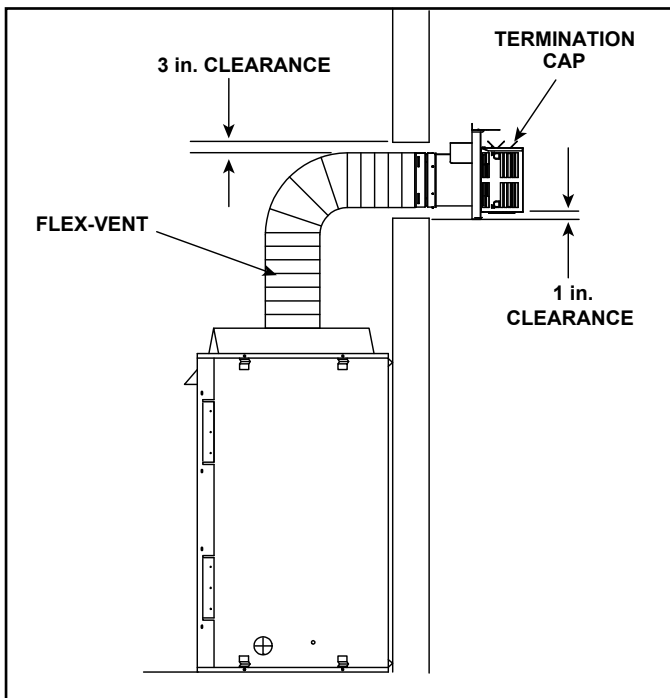

Figure 4.8 Flex Vent Pipe - Generic Fireplace Shown
A support is required at each change in venting direction, and in any location where it is necessary to maintain the necessary clearance to combustibles. A simple “up and out” installation (Figure 4.8) requires only enough support to maintain the necessary clearance to combustibles. However, the vent attachment point and the firestop location are considered to be supports.
**Note:** There MUST be a 25% reduction in total H when using flex vent except when using the simple up and out installation. See Figure 4.8.